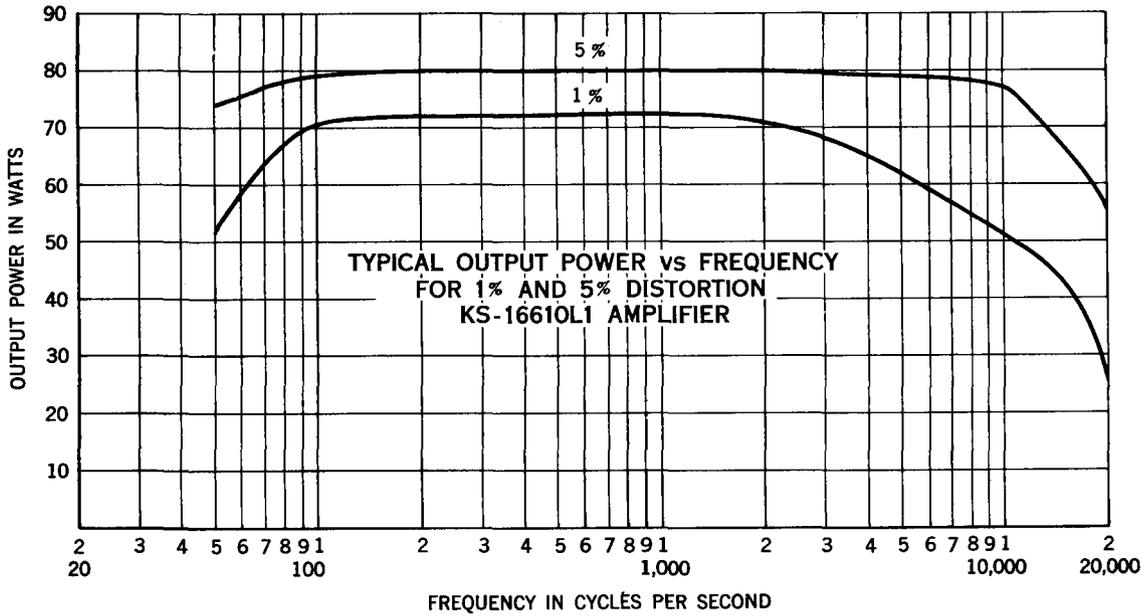

Fig. 6 - Output Power vs. Frequency
6.03 Fig. 6 shows the power output characteristics of the amplifier for 1% and 5% distortion. The curves shown are typical for all the output impedances.